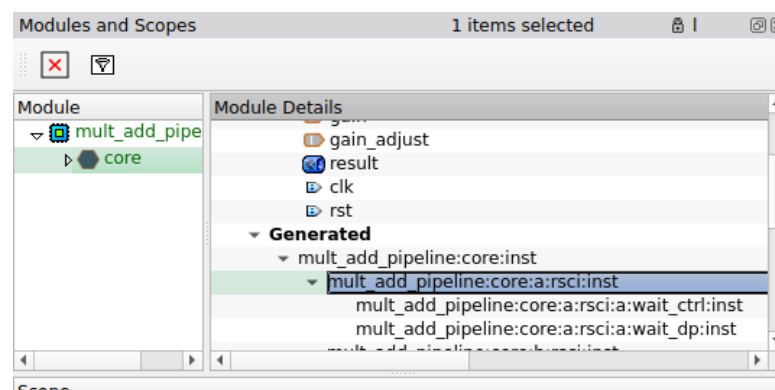

Figure 6. Modules and Scopes section.
- 37.1 In *Module Details*, expand *Generated* and double-click on the *a:rsci:inst* block, which is the interface for the *a* ac_channel (Fig. 6).